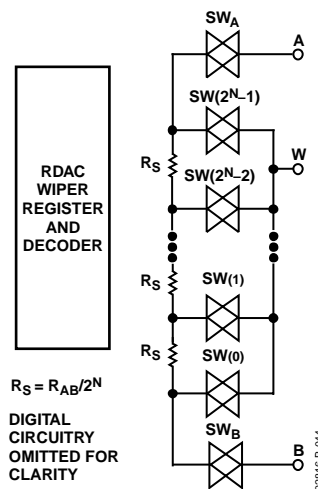

Figure 43. Equivalent RDAC Structure
The patent-pending RDAC contains multiple strings of equal resistor segments with an array of analog switches that acts as the wiper connection. The number of positions is the resolution of the device. The AD5235 has 1024 connection points, allowing it to provide better than 0.1% settability resolution. Figure 43 shows an equivalent structure of the connections among the three terminals of the RDAC. The SW_A and SW_B are always on, while the switches SW(0) to SW(2^N-1) are on one at a time, depending on the resistance position decoded from the data bits. Because the switch is not ideal, there is a 50 Ω wiper resistance, R_w. Wiper resistance is a function of supply voltage and temperature. The lower the supply voltage or the higher the temperature, the higher the resulting wiper resistance. Users should be aware of the wiper resistance dynamics, if accurate prediction of the output resistance is needed.
The 10-bit data-word in the RDAC latch is decoded to select one of the 1024 possible settings. The following discussion describes the calculation of resistance R_{WB} at different codes of a 25 k Ω part. The wiper's first connection starts at Terminal B for data 0x000. $R_{WB}(0)$ is 50 Ω because of the wiper resistance, and it is independent of the nominal resistance. The second connection is the first tap point where $R_{WB}(1)$ becomes 24.4 Ω + 50 Ω = 74.4 Ω for data 0x001. The third connection is the next tap point representing $R_{WB}(2)$ = 48.8 Ω + 50 Ω = 98.8 Ω for data 0x002, and so on. Each LSB data value increase moves the wiper up the resistor ladder until the last tap point is reached at $R_{WB}(1023)$ = 25026 Ω . See Figure 43 for a simplified diagram of the equivalent RDAC circuit. When R_{WB} is used, Terminal A can be left floating or tied to the wiper.